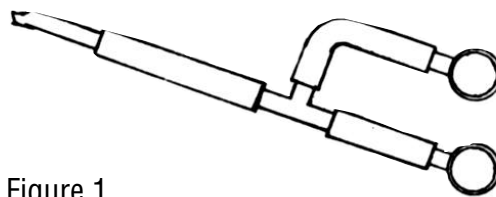

Figure 1
1. Using (2) of the bolts supplied, attach the large throttle cable housing bracket to the intake manifold from the underside of the portion of the carburetor mounting flange which extends toward the engine. Do not use washers. Install the other (2) bolts along with (2) flat washers in the remaining (2) holes in the carburetor mounting flange.
4. (1971-73 models ONLY) Remove both plastic metering oil pump oil tubes and their rubber connecting hoses from the metering oil pump. Remove both rubber connecting hoses from the longer tube (one 900 and one straight). Using those (2) hoses, the complete shorter tube, and the plastic "T" supplied, re-connect the metering oil tubes as shown in Figure 1.